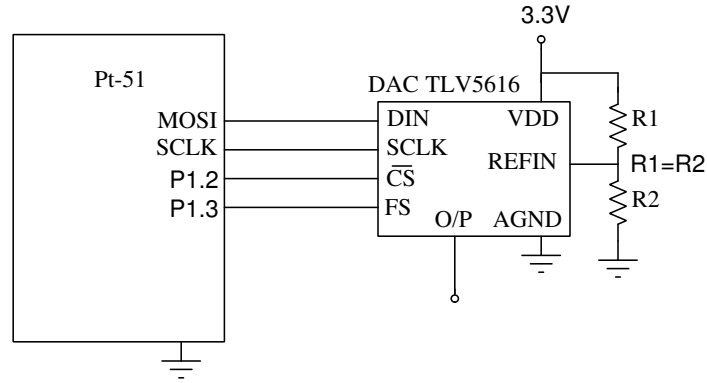

Figure 3: DAC connection diagram.
- iv. Select appropriate setting for serial clock polarity and clock phase. Refer timing diagrams (Figures 3 and 4 in this handout) of SPI communication of microcontroller and TLV5616 (Refer datasheets of both ICs for more information).
- vii. Set enable all interrupt (EA) bit (**IEN0**- Interrupt enable register) (Refer datasheet of AT89C5131a for more information)
- (c) Testing your code: Make the connections as shown in Fig. 3.